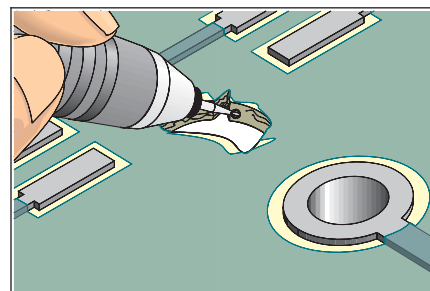

Figure 1 Mill away damaged base material.
2. Mill away the damaged base material using a hand held drill and ball mill. Remove all evidence of the damaged material. No fibers of laminate material should be exposed. At the surface file the edges to ensure that the opening is rectangular or uniform in shape. (See Figure 1.)